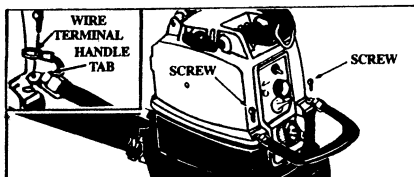

Figure 1
2. Remove the two screws shown in Figure 1 with a screwdriver.
3. Align the Rear Handle Tabs over the screw openings and reinstall screws. If unit has external grounding wire, place wire terminal between screw head and handle tab. Figure 1 (inset).